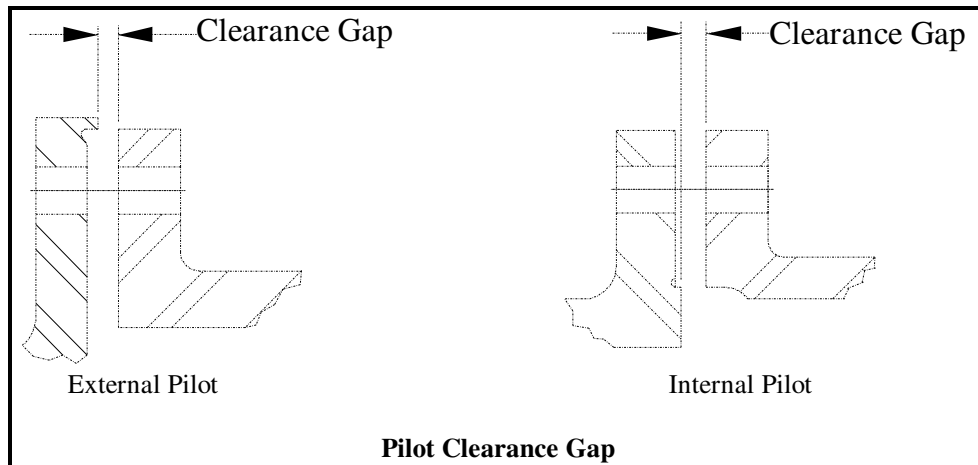

Figure 4-11
- 4.7.1.2 Remove the spacer flange bolts at one end of the spacer. Support the spacer and, using the tapped jacking holes provided, disengage the pilot at that end to obtain a clearance of .005 - .010 IN. (.127 - .254 mm) between the spacer and the splined adapter pilots (see Figure 4-11).
- 4.7.2.2 Remove the spacer flange bolts at one end of the spacer. Support the spacer and using the tapped jacking holes provided, disengage the pilot at that end to obtain a clearance of .005 - .010 IN (.127 - .254 mm) between the spacer and the pack adapter pilots (see Figure 4-11).
- 4.7.3.4 Using the tapped jacking holes provided in the flanges, disengage the spacer ring to flange pilots at both ends of the coupling to obtain a clearance of .005 - .010 IN. (.127 - .254 mm) between the spacer ring pilot and the flange at both ends of the coupling (see Figure 4-11).